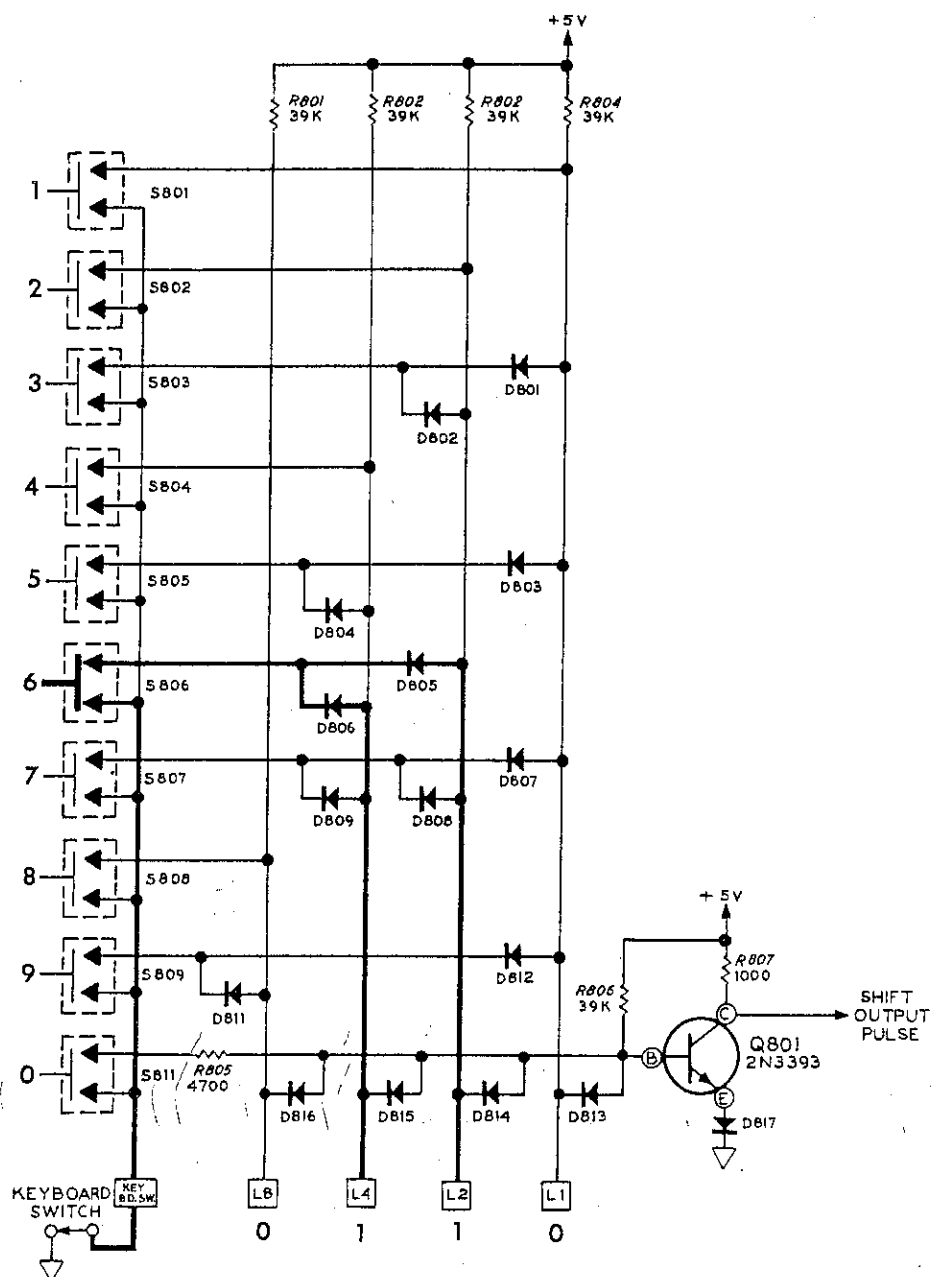

Figure 6-2
Figure 6-2 shows how keyboard key 6 produces a BCD output of $L_8 = \text{high}$, $L_4 = \text{low}$, $L_2 = \text{low}$, and $L_1 = \text{high}$. (These outputs are in negative logic.)